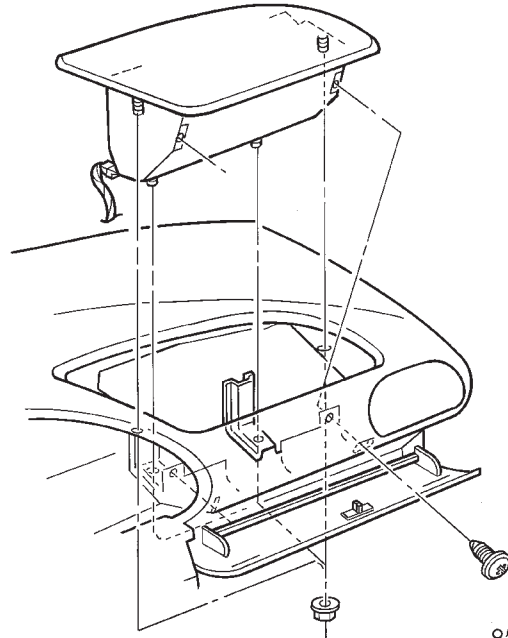

Fig. 7 Passenger Airbag Removal
(2) Open and lower glove box fully to gain access to Passenger Airbag Module (PAB) attaching screws inside of the glove box (Fig. 7). Glove box removal not required.
(3) Disconnect wire connector from the Passenger Airbag Module.